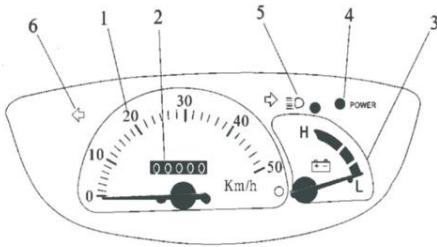

Figure 4-15
2. Controller Instruments and Display (see Figure 4-15)